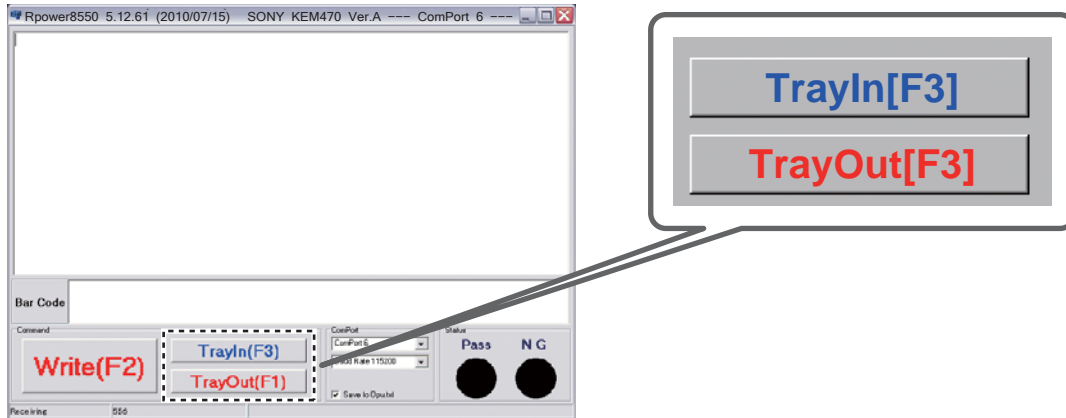

Fig. 7
- Click [TrayOut F1]. The disc tray opens. (Fig. 7)
- Click [TrayIn F3]. The disc tray closes. (Fig. 7)